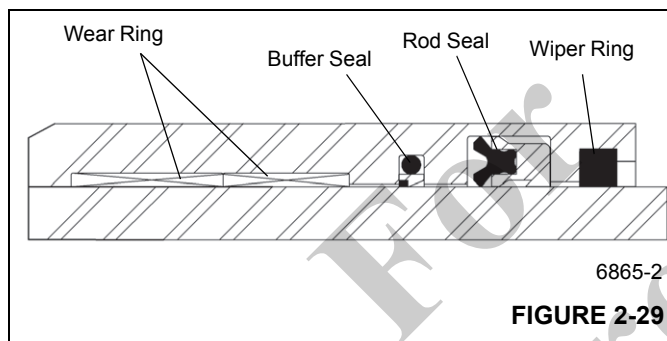

FIGURE 2-29
1. Install the replacement wear rings, buffer seal, rod seal and wiper ring in the inside of the head. Make sure the buffer seal's step is closer to the rod seal. Make sure the rod seal's rim groove is closer to the buffer seal (Figure 2-29).